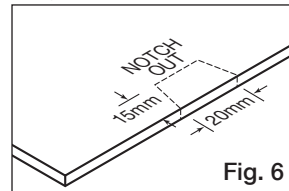
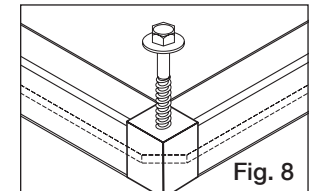

Fig. 6
Fig. 8
- Cut away an area 15 x 20mm on the edge of the screen to create clearance for each mounting screw (Fig. 6). This is not required if screws can be positioned in the gaps of the lattice.
- It is possible to attach the framed panel using screws through the plastic corners and/or C-channel (as in Fig. 8, 9). Remember to cut the corners and edges of the screen to allow for thermal expansion (see Fig. 6, 7). Do not crush the corners by overtightening screws.
- Cut off corners and notch edges as required to create clearance for screws (Fig. 6, 7). This is not required if the screws can be positioned in the gaps of the lattice.
- Alternatively, drill holes straight through the corners and/or C-channels and attach directly to the support structure behind using screws 50mm or longer (Fig. 8, 9) ensuring that there is ample clearance for each screw (Fig. 6, 7). Do not crush the corners and channel by overtightening the screws.
Cut off 20 x 20mm from screen corner if attaching through plastic corners as in Fig. 8